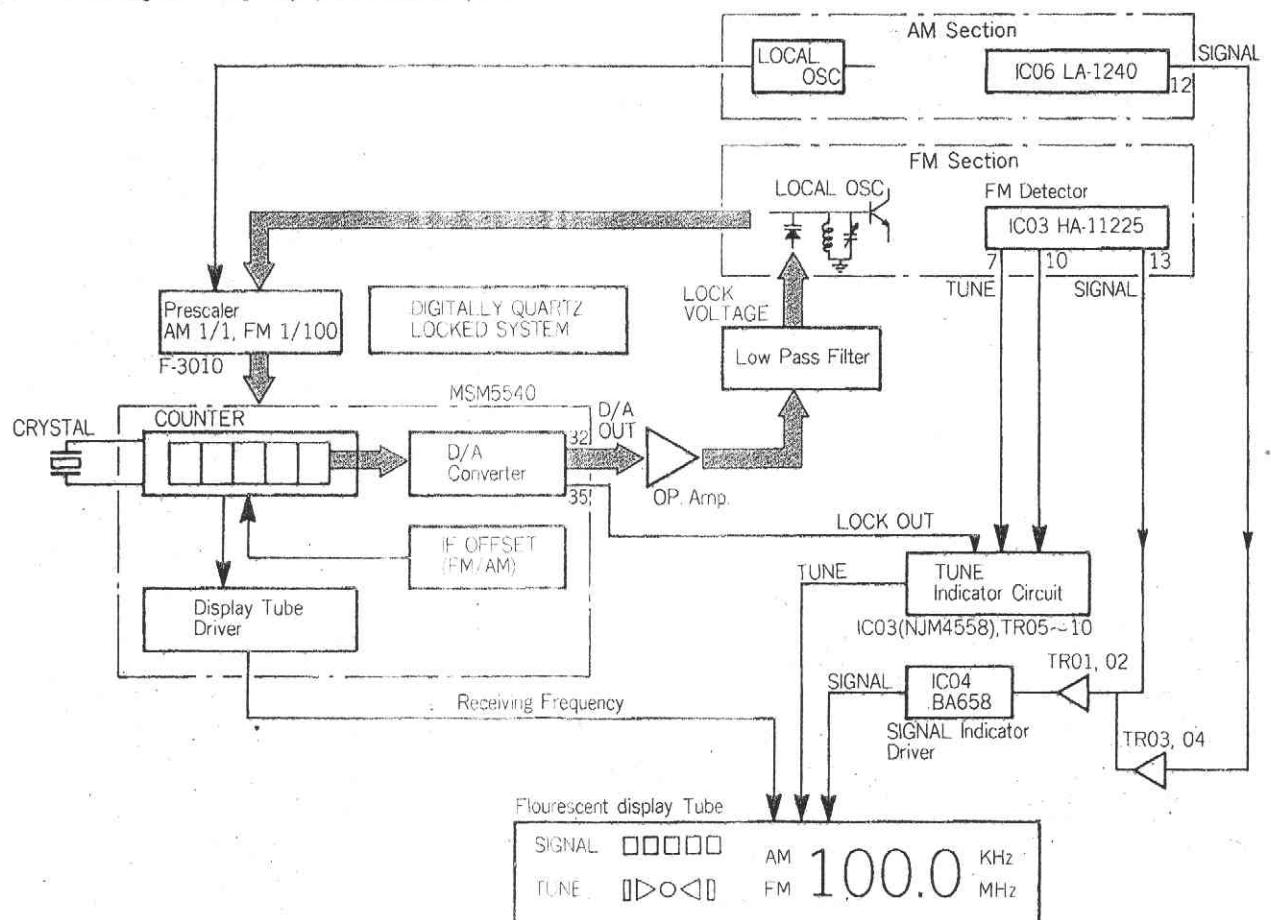

Fig. 2-5 Output of D/A Converter
- The practical output of D/A converter (D/A OUT) is as shown in Fig. 2-5. If the local oscillating frequency is risen from the locked frequency for some reason, the output of D/A converter decreases than that of reference voltage, which makes lock voltage applied to varactor dropping. When the reverse voltage (lock voltage) applied to varactor is decreased, the junction capacitance of varactor is enlarged that the oscillating frequency becomes lowered till lock frequency.